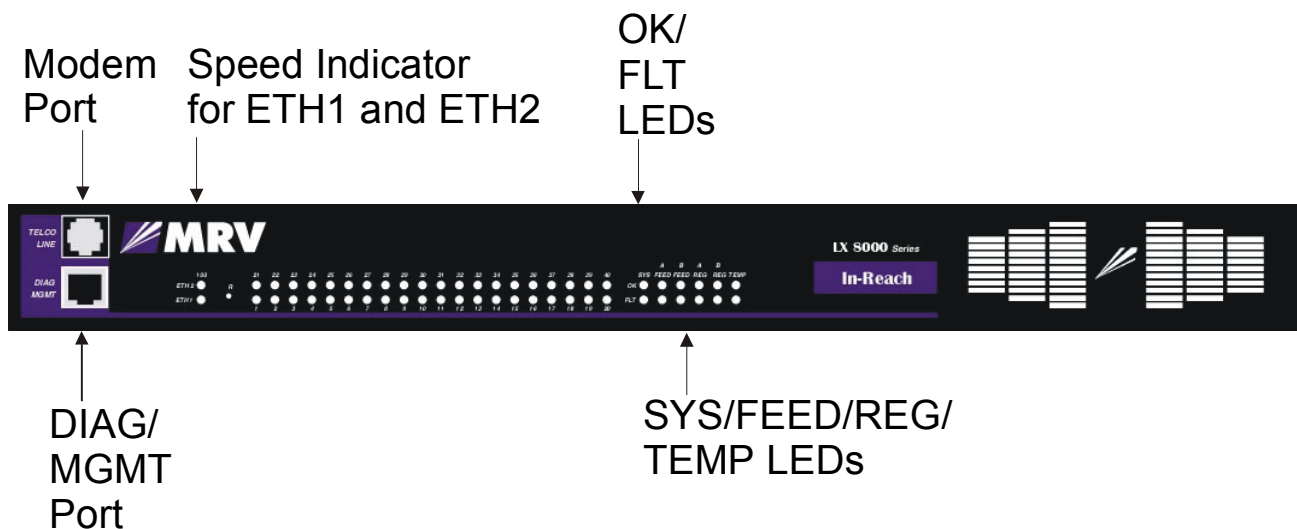

Figure 4 - DIAG Port (Port 0) and Modem Port, LX-8040 Unit Front View
Cable the LX-8000 unit as follows (see Figure 2 and Figure 4):
- Connect the provided serial port cable to the DIAG port (port 0), and the other end to your terminal. The DIAG port is on the front (see Figure 4).